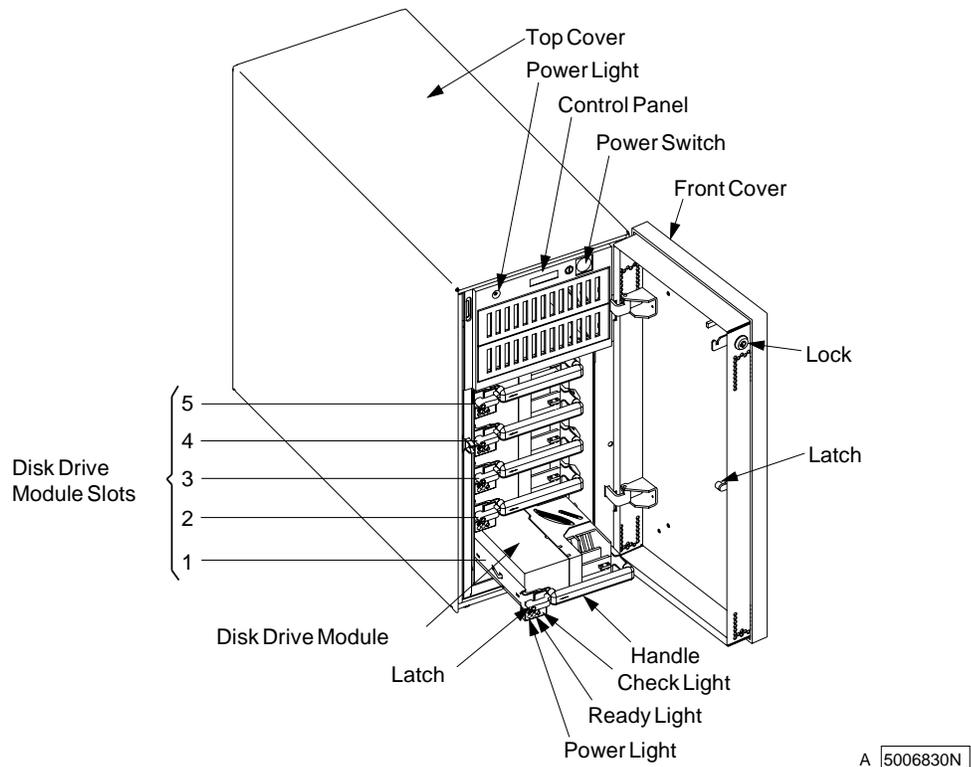

Figure 3-14. Disk Drive Modules in the 7131 Storage Tower
**6** Verify that the ready light to the disk drive module is on; light is steady, not flashing (Figure 3-14 on page 3-15).
- 7 If the check light on the disk drive module is on steady (Figure 3-14), the disk drive module is in service mode. Take the disk drive module out of service mode (reset the service mode).